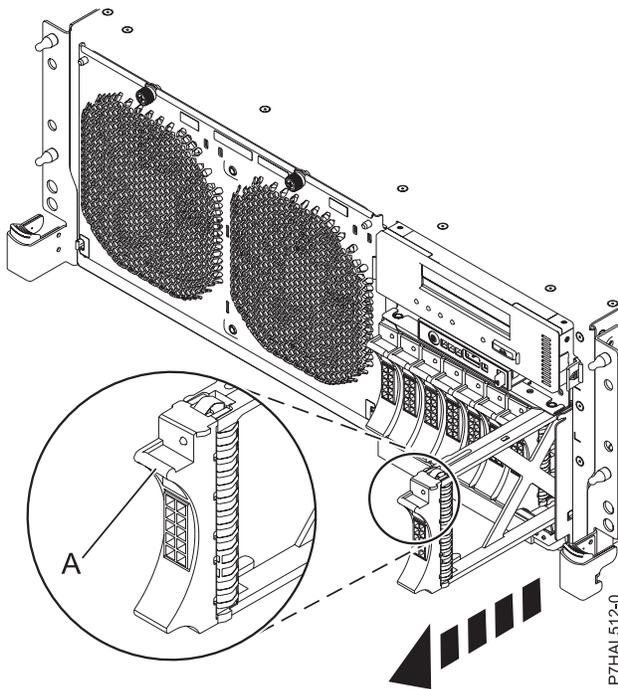

Figure 40. Removing a disk drive filler from the server
2. Hold the filler handle (A) and pull out the disk drive filler from the slot, as shown in Figure 40.